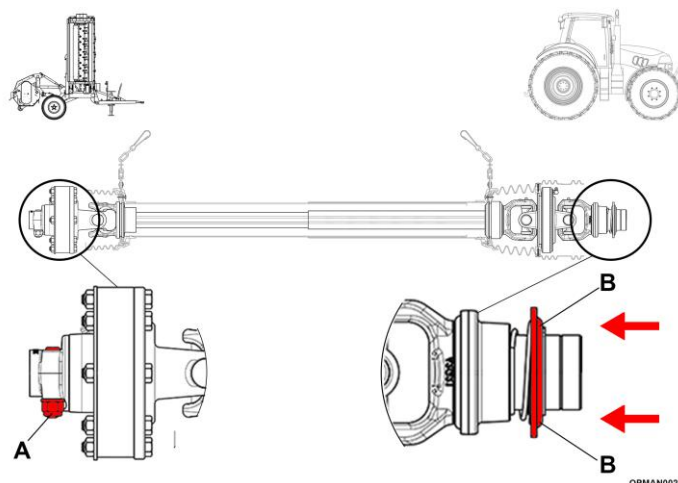

Figure 4.16 – Trident Input Driveshaft Fitting & Removal
- 4.5.1.1 Proceed to remove the taper pin, flat washer and nut from the machine end of the input PTO driveshaft. See Figure 4.16 (A).
- 4.5.1.3 Pull the input PTO driveshaft yoke collar back and align the grooves and splines with those of the PTO output driveline of the tractor; see Figure 4.16 (B).
- 4.5.1.6 Pull the input PTO driveshaft yoke collar back and pull back the driveshaft off the output splined driveshaft of the tractor; see Figure 4.16 (B).
- 4.5.1.8 To then completely remove the driveshaft, remove the taper pin, flat washer and nut from the machine end; see Figure 4.16 (A).